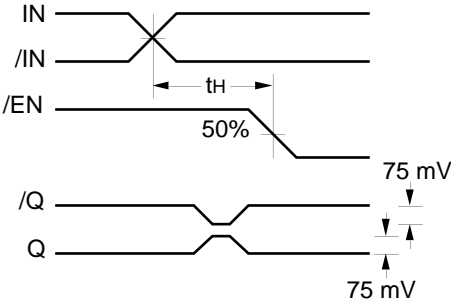

Figure 2. Hold Time
- The hold time is the minimum time that /EN must remain asserted after a negative going IN or a positive going /IN to prevent an output response greater than $\pm 75\text{mV}$ to that IN, /IN transition (see Figure 2).